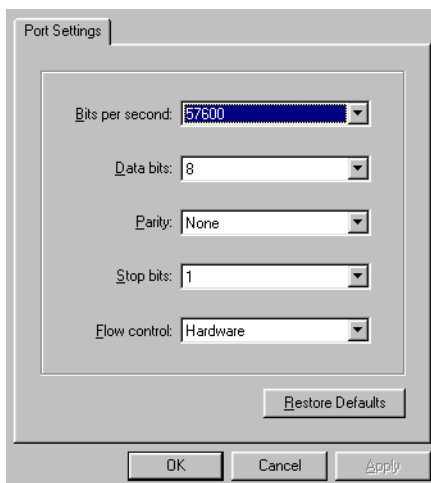

Figure 5-17 COMn Dialog Box
- g. Ensure the *Connect using* field displays **COM1** or **COM2** (depending on the serial communication port connection to the director), and click *OK*. The *COMn* dialog box displays where *n* is 1 or 2 (Figure 5-17).